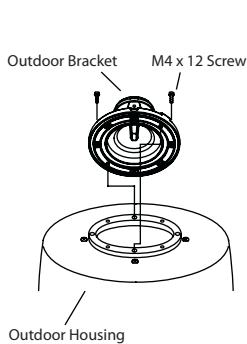

FIG. 3
- Put the Outdoor Bracket and the Outdoor housing together with M4 Screw as FIG. 3.